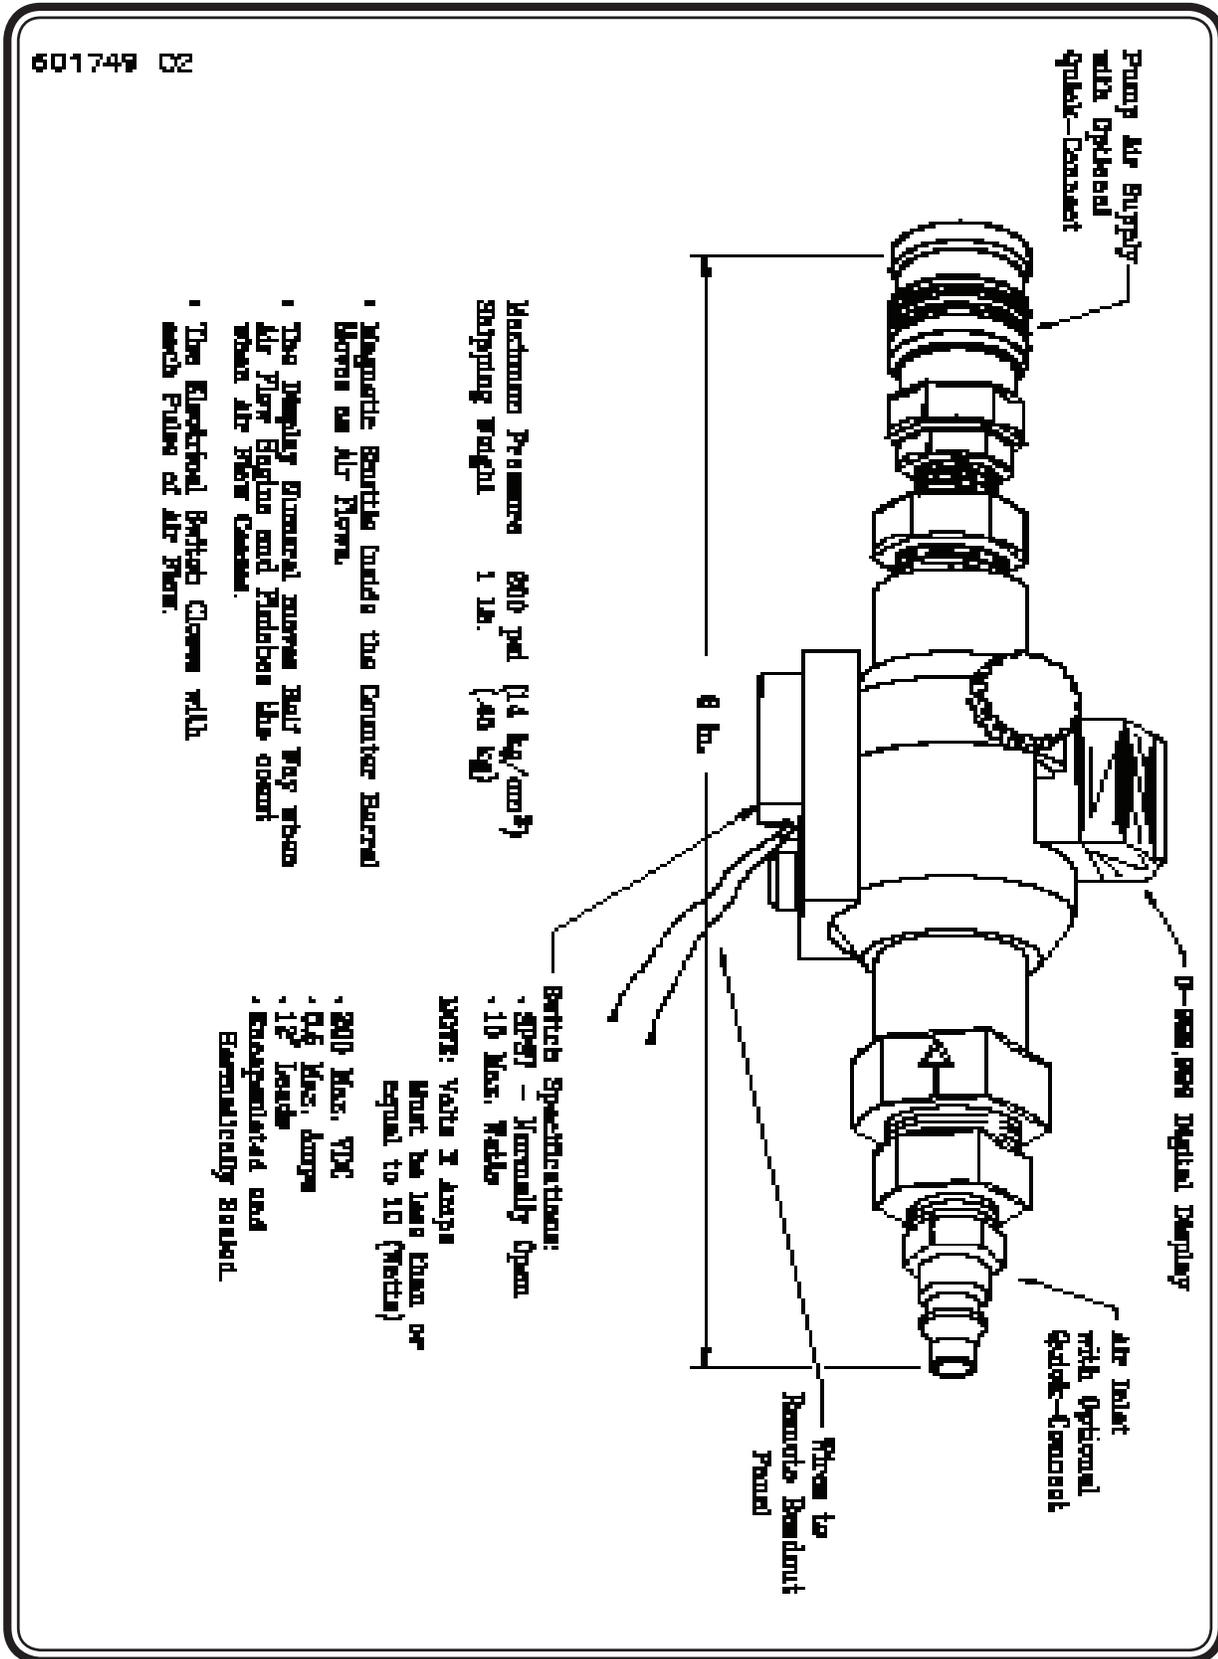

Figure 39 - Pump Cycle Counter with Magnetic Reed Switch
- **Optional:** Switch for remote electronic readout available upon request. (See **Figure 39**)